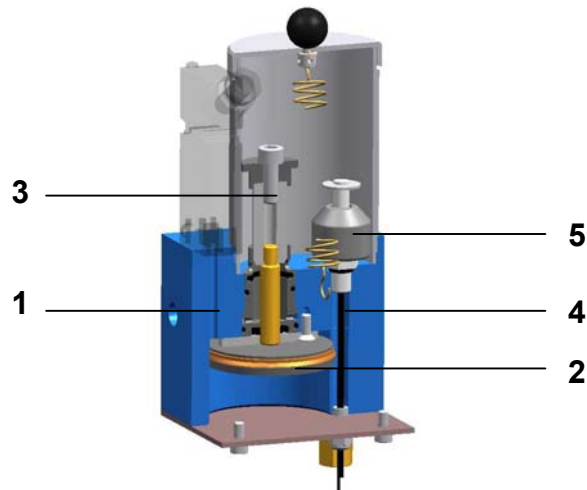

Fig. 2 Pump Automatic Lubrication system
The oil pump consists of two main parts, as they are pump body and the piston assembly. This assembly consists of a pneumatic piston (2) and a hydraulic piston (3), see figure 2. By means of the 3/2 solenoid valve channel (1) is pressurised and de-pressurised. When pressurised the pneumatic piston is activated its force exceeded the spring setting and pulls the hydraulic piston into the housing. The locked quantity of lubrication in housing is transported through the channel (4) to the turbine gas meter. De-pressurising the pneumatic piston will allow the spring to pull up the hydraulic piston again allowing the pump body to re-fill again for the next stroke. In order to detect a low oil level in the oil reservoir a low-level switch (5) is built in. This switch can be easily changed from NO (normally open) into NC (normally closed) by means of reverse mounting of the lever. For description see attachment Reverse Contact